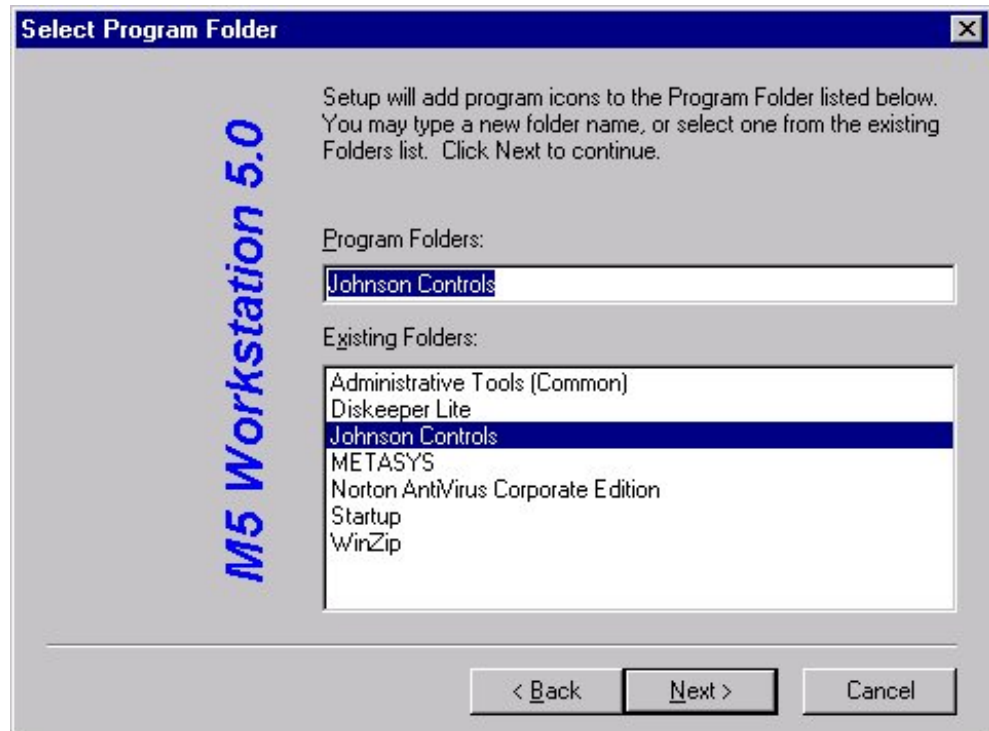

Figure 7: Select Program Folder Dialog Box
9. Click OK. The Select Program Folder dialog box appears (Figure 7).
8. Click Next. The Select Program Folder dialog box appears (Figure 7).